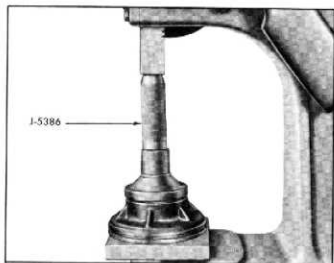

Fig. 185—Installing Pump Body Oil Seal
6. If oil seal is damaged or is leaking, pry out and install new seal using seal driver, J-5386 (fig. 185).